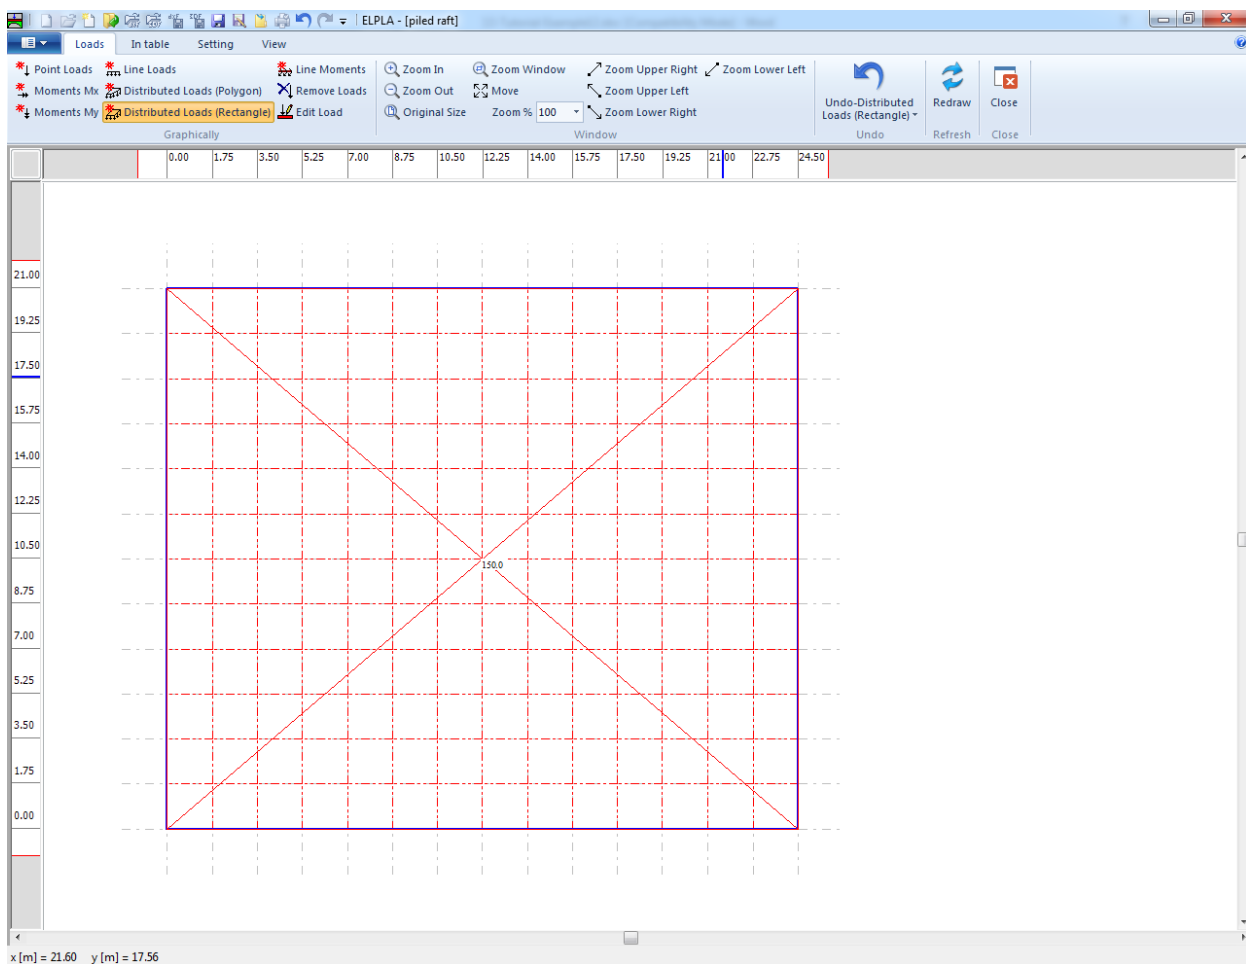

Figure 12.29 Loads
After you have completed the definition of all load data, the screen should look like the following Figure 12.29.
- Choose "Save" command from "File" menu in Figure 12.29 to save the load data
- Choose "Close" command from "File" menu in Figure 12.29 to close the "Loads" Window and return to *ELPLA* main window.